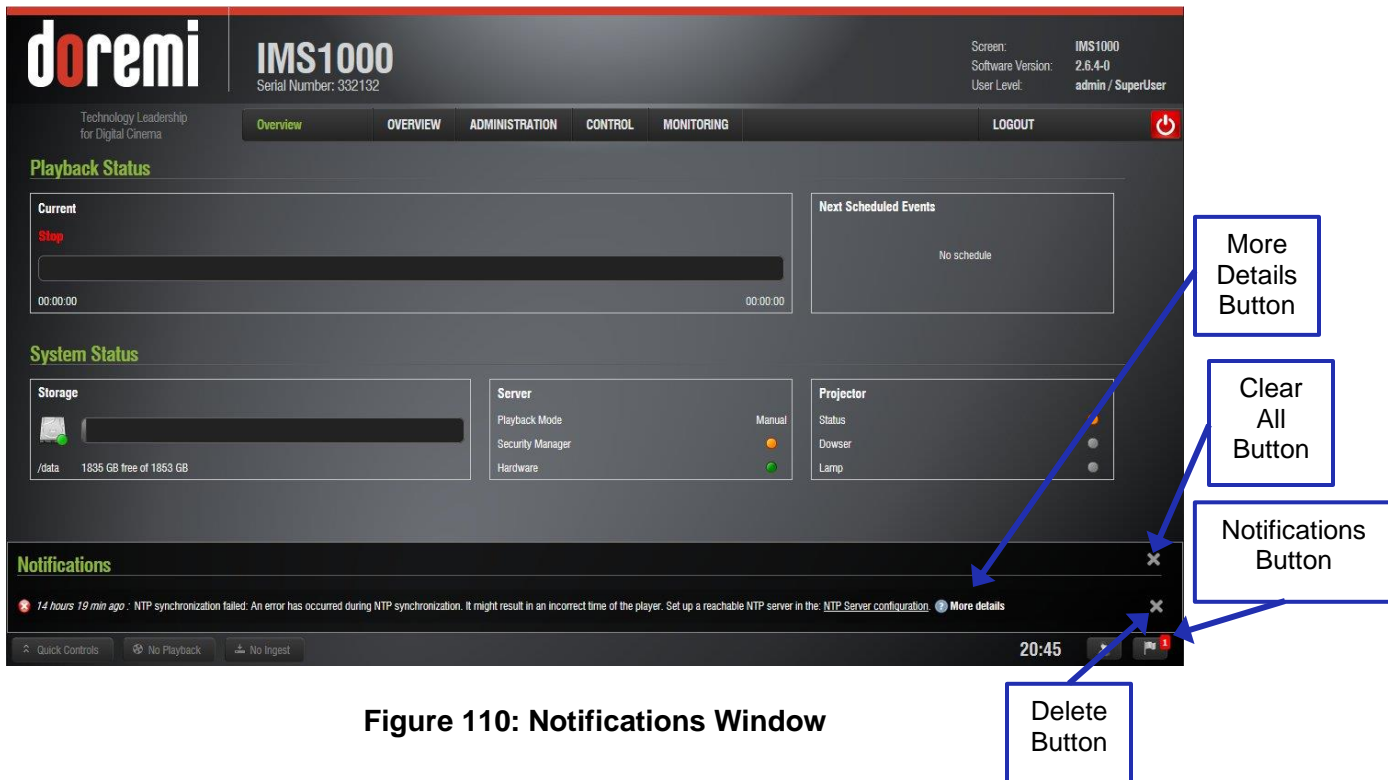

Figure 110: Notifications Window
- Click on the Notifications button to view the notifications (Figure 110).
- Hovering over the More Details button provides more details about the notification (Figure 110).
- To delete a notification, highlight it and click on the X that appears on the right-hand side (Figure 110). To delete all notifications, click on the X in the upper right corner of the window.